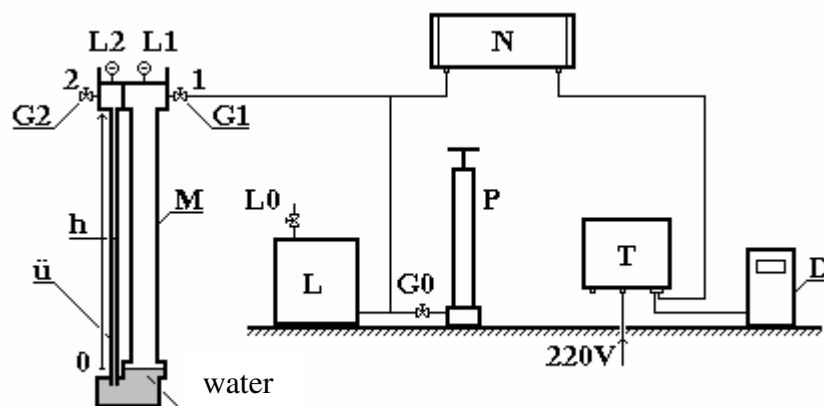

Figure 1. Scheme of the measurement rig
The scheme of the measurement rig is shown in Figure 1. The pressure transducer (N) receives its electrical power from the power supply (T). The pressure transducer and the manometer are connected to the reservoir tank via a T-junction.
Before the beginning of the measurement make sure that the measurement rig is built up as shown in Figure 1. Open the L0 throttle valve, and if needed set the mm scale placed next to the glass tube of the manometer to have its 0 mm point at the meniscus of the water surface. Close the L0 valve.